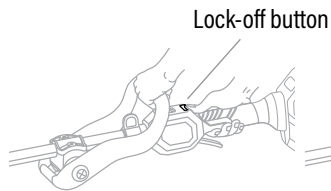

Fig. 8B
2. Press the lock-off button and hold it in that position, depress the trigger to turn on the tool. Release the lock-off button and continue to squeeze the trigger for continued operation. (Fig. 8B/8C)